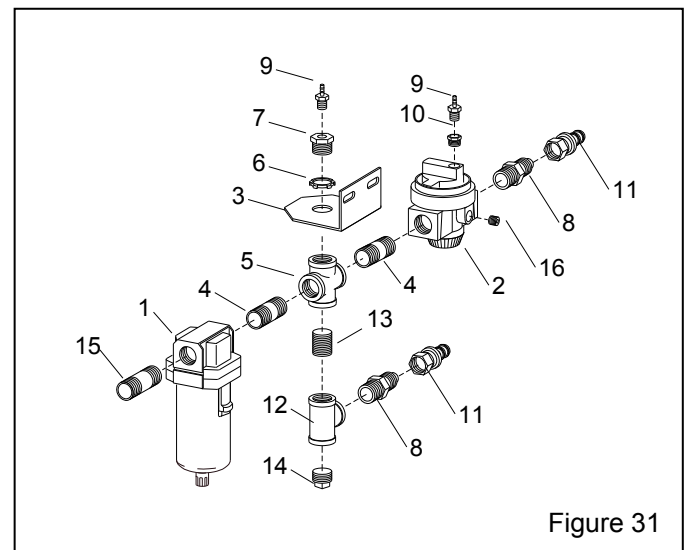

Figure 31
9.2 Suction Inlet Regulator Assembly, Figure 31